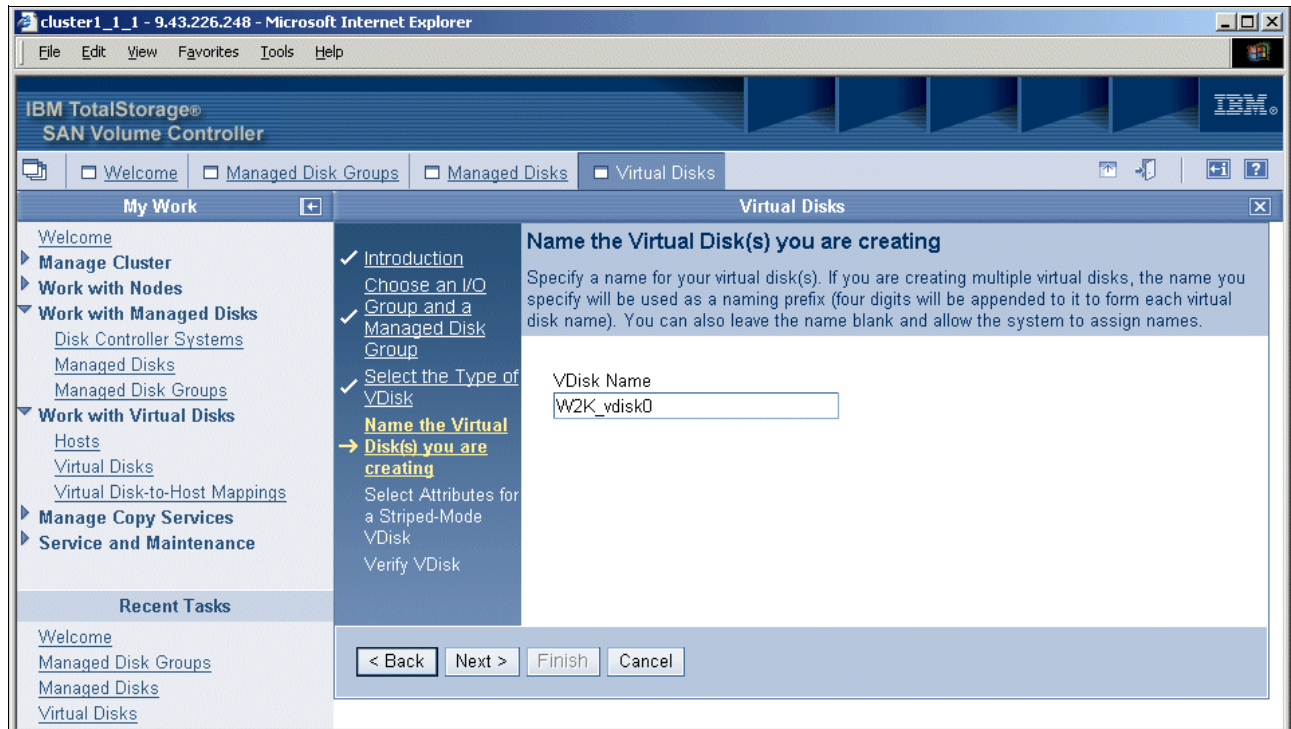

Figure 6-35 Name the Virtual Disk(s) you are creating panel
7. On the Name the Virtual Disk(s) you are creating panel (Figure 6-35), type a name for your vDisk. Click **Next**.